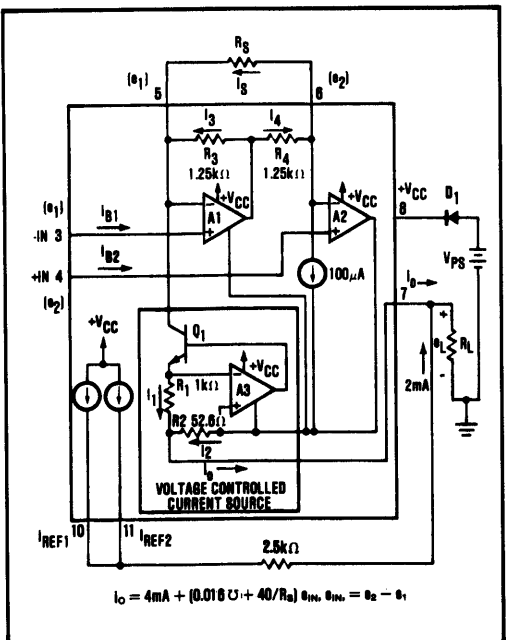

FIGURE 1. Simplified Schematic of the XTR100.
A simplified schematic of the XTR100 is shown in Figure 1. Basically the amplifiers, A₁ and A₂, act as an instrumentation amplifier controlling a current source, A₃ and Q₁. Operation is determined by an internal feedback loop. e₁ applied to pin 3 will also appear at pin 5 and similarly e₂ will appear at pin 6. Therefore the current in R_S, the span setting resistor, will be $I_S = (e_2 - e_1) / R_S = e_{IN} / R_S$. This current combines with the current, I₃, to form I₁. The circuit is configured such that I₂ is 19 times I₁. From this point the derivation of the transfer function is straightforward but lengthy. The result is shown in Figure 1.
7. It is recommended that a reverse polarity protection diode (D_1) in Figure 1) be used. This will prevent damage to the XTR100 caused by momentary (e.g., transient) or long term application of the wrong polarity of voltage between pins 7 and 8.